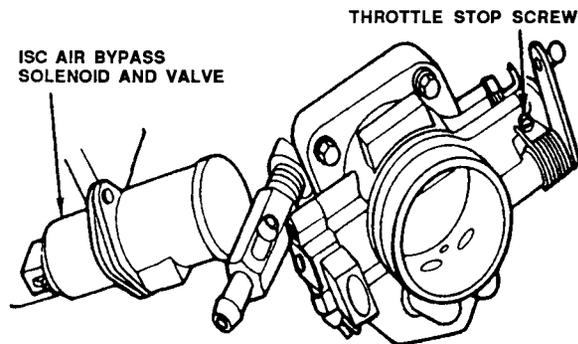

Figure F050-12
4. Place an AT in drive (AT) or park (all 1991 and later and 1990 2.9L), or MT in neutral.
5. Turn the throttle stop screw (Figure F050-12 on page F162), to set the idle speed: